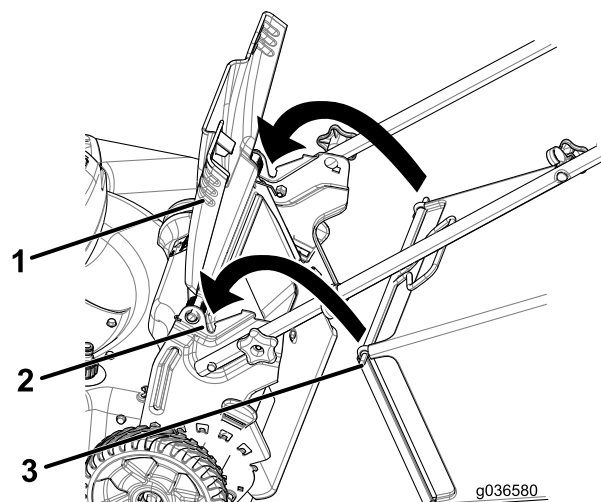

Figure 19
1. Raise and hold up the rear deflector (Figure 19).
2. Install the grass bag, ensuring that the pins on the bag rest in the notches on the handle (Figure 19).